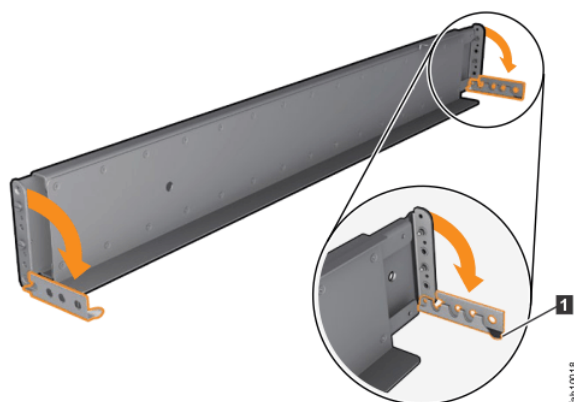

Figure 31. Opening the hinge brackets
6. At each end of the rail, grasp the tab **1** and pull *firmly* to open the hinge bracket (see Figure 31 on page 67).